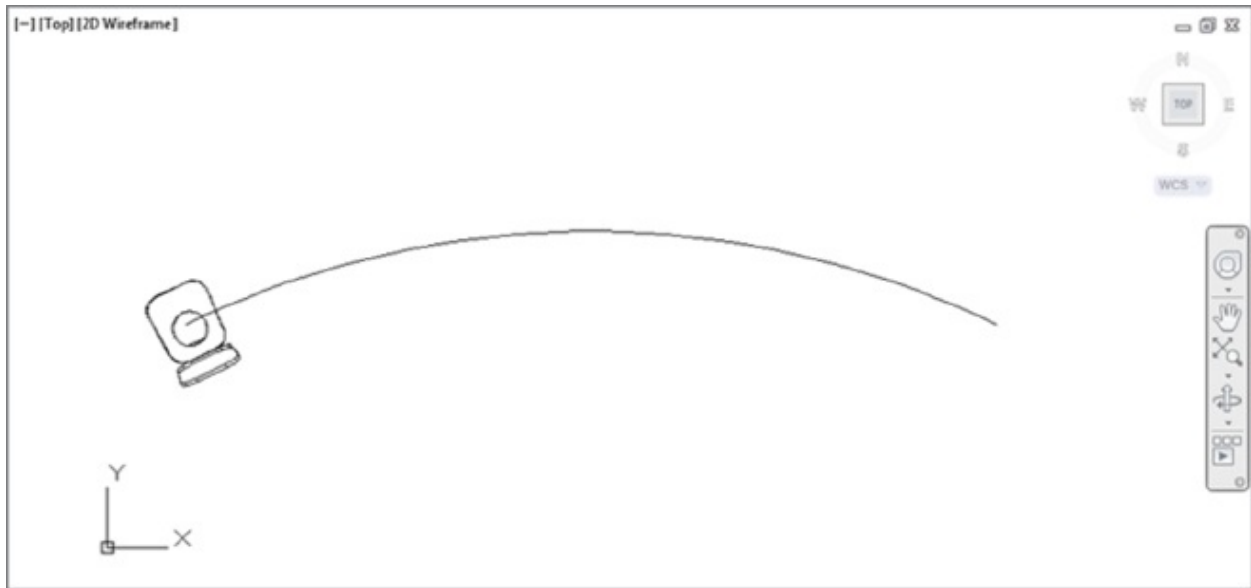

FIGURE 6.11 Click the chair at the left end of the arc.
3. At the `Select objects:` prompt, click the chair at the left end of the arc in the drawing and then press `↵` (see Figure 6.11).